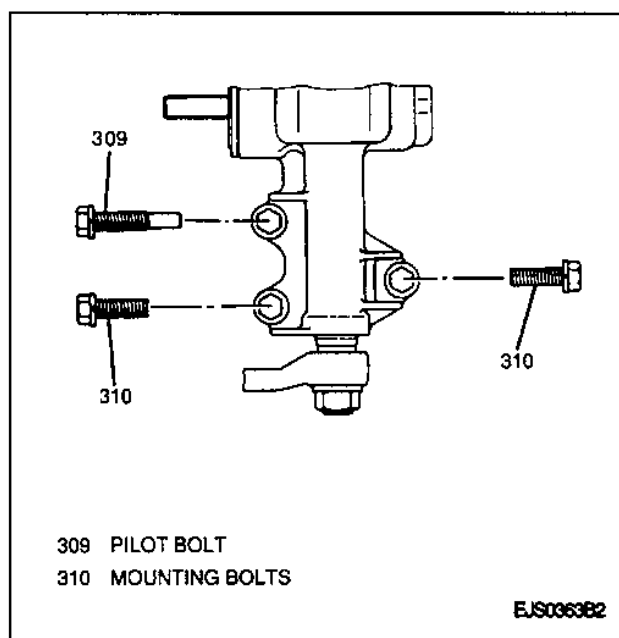

Figure 6—Steering Gear Mounting Bolts
2. Steering gear to vehicle; secure with two mounting bolts and one pilot bolt (Figure 6).